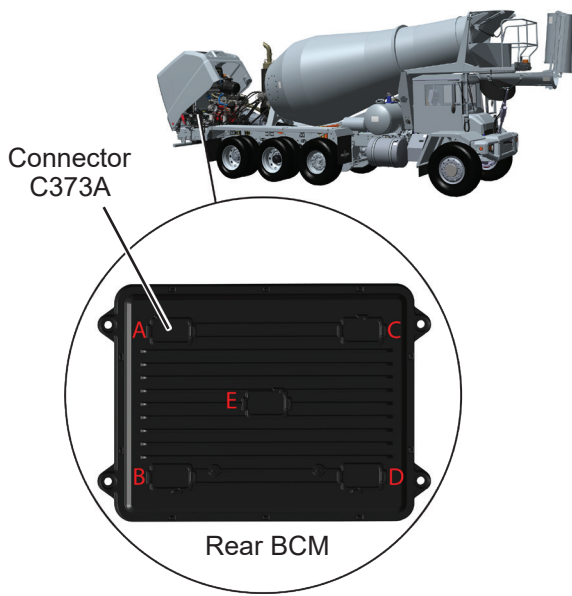

Figure 26
- a. Disconnect rear control module (RCM) connector C373A to prevent inadvertently updating the wrong control module. See Figure 26.